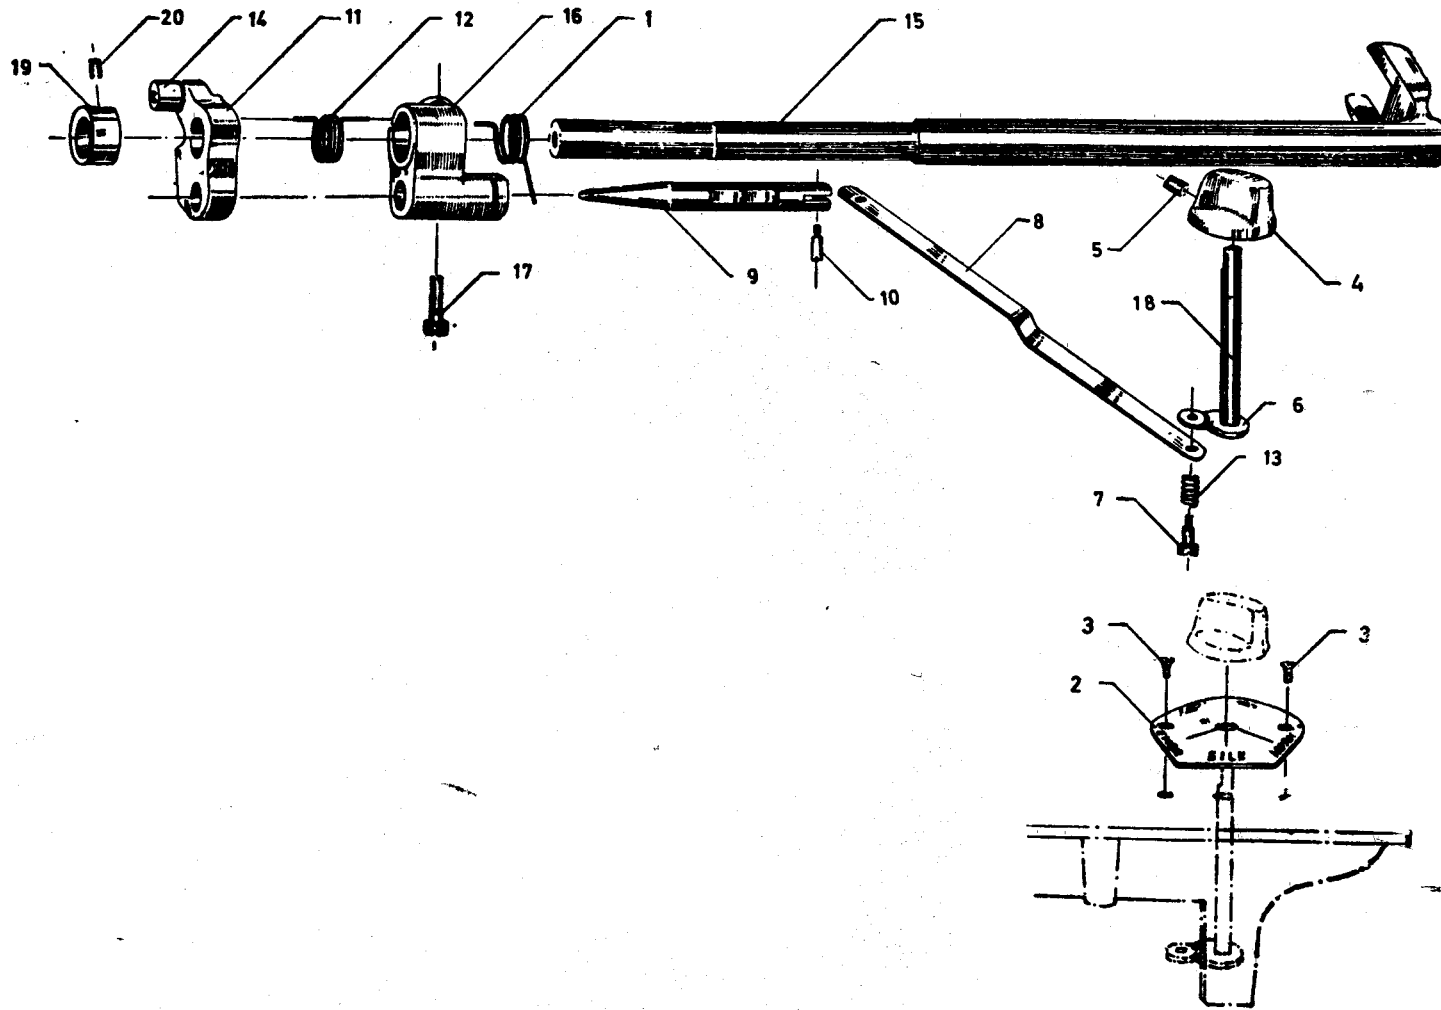

FIG. 15 FEED DROP ASSEMBLY
**2.15 Feed Drop Assembly — See Fig. 15.**